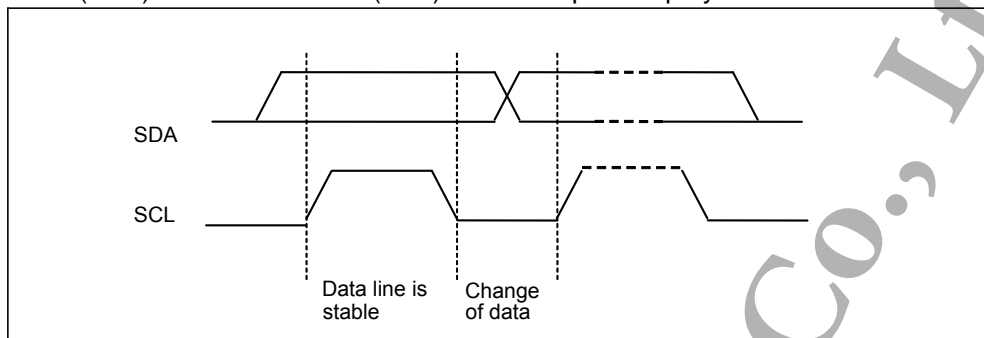

Figure 6-7 : Definition of the data transfer condition
1. The data bit, which is transmitted during each SCL pulse, must keep at a stable state within the "HIGH" period of the clock pulse. Please refer to the Figure 6-7 for graphical representations. Except in start or stop conditions, the data line can be switched only when the SCL is LOW.